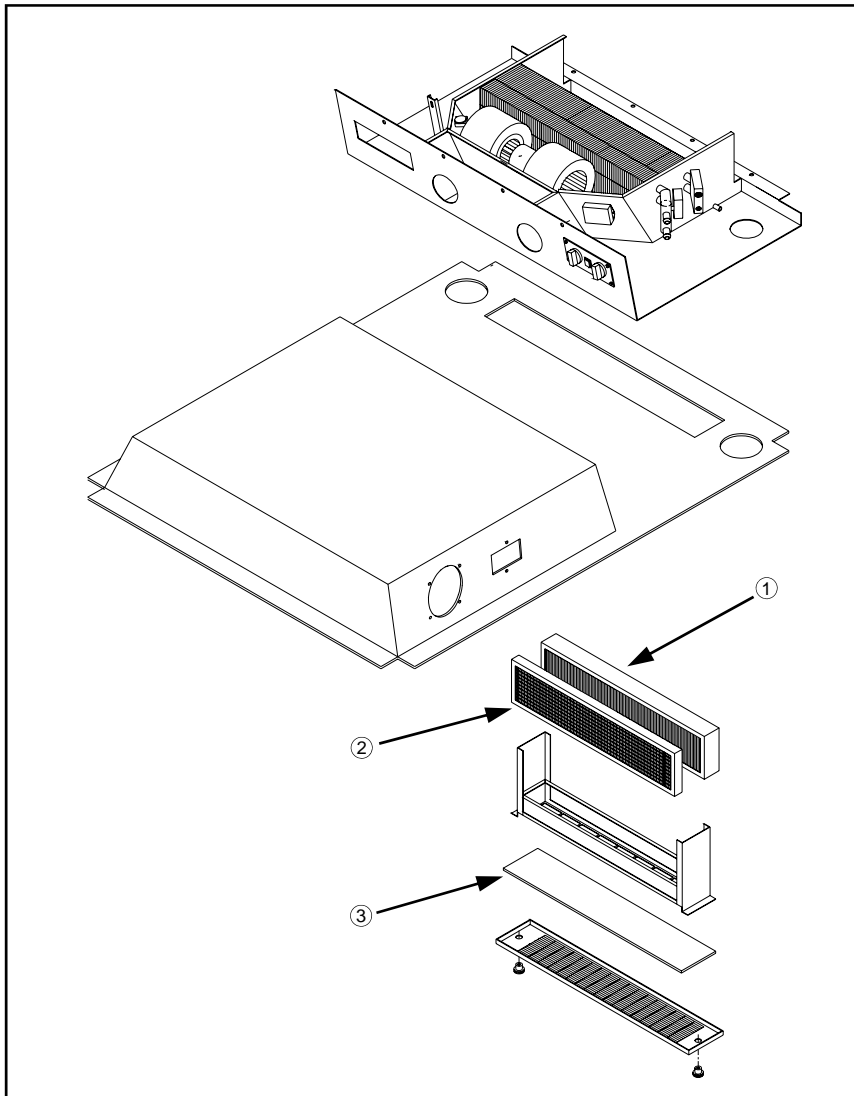

FIG 7.32
PAPER FILTER - (fig. 7.32, item 1) The paper filter should be cleaned once a year, or more often if necessary. Remove the paper element and gently tap it against a flat surface. Direct low pressure compressed air through the filter to remove larger particles. Replace the paper filter if necessary.
CHARCOAL FILTER - (fig. 7.32, item 2) Remove and replace at the first sign of chemical odor entering the cab.
(fig. 7.32, item 3) The recirculating filter may be cleaned with soap and water. Replace if it becomes worn.